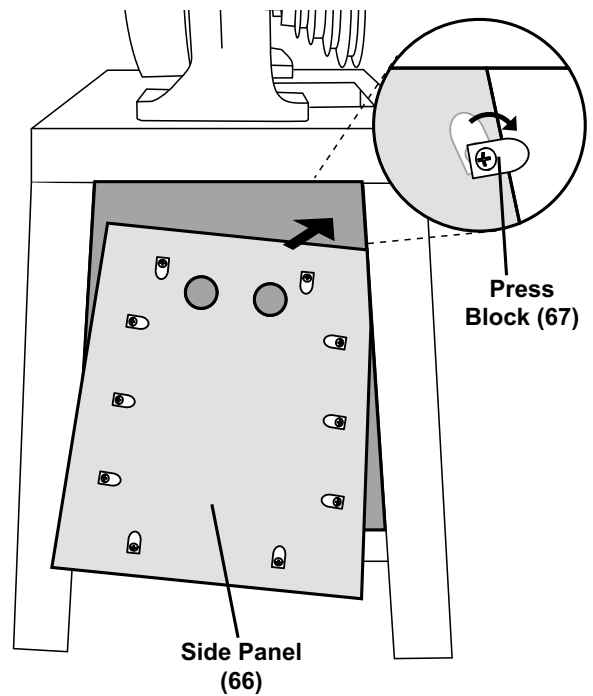

Figure 21
9. Attach the Press Blocks to the textured side of the Side Panel (66) by screwing the Screws into the mounting holes on the Side Panel. Leave the Screws (68) just loose enough to allow the Press Blocks to turn. See Figure 21.
10. Position the Press Blocks so that they point towards the center of the Side Panel. See Figure 21.
11. While holding the Side Panel by the two finger holes, place it inside the side of the Stand as shown in Figure 21. Rotate the Press Blocks out and tighten the Screws (68) to secure the Side Panel in place. Repeat for the other Side Panel.